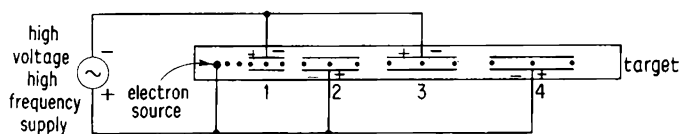

Fig. 18
In one type of accelerator a series of electrodes in the form of hollow sleeves are arranged inside an evacuated tube as shown in Fig. 18. *Why must the tube be evacuated?* (20) The sleeves are coupled to a high-frequency, high-potential source of energy. Electrons are fired from a source at one end of the tube and are accelerated towards a target at the other end. If an electron leaves the source when the sleeves are charged as shown in *red* the electron will be accelerated towards the first sleeve. Once inside it the electron will coast along at a steady speed as there is no field inside the sleeve. When the electron is inside sleeve No. 1 the voltages are reversed as shown in *black* so that the electron emerges to find sleeve No. 2 attracting it and sleeve No. 1 repelling it. The electron is therefore accelerated again. As the sleeve voltages are reversed during the time the electron is inside each sleeve, the electron is accelerated between the sleeves. So that reversals take place at the